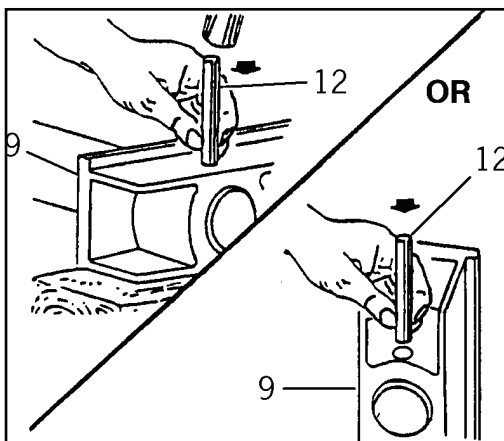

Fig. 3-53 Shaft - install into sliding rail
4. Align hole in shaft with hole in slide bar (9) and install roll pin (12). Fig. 3-53.